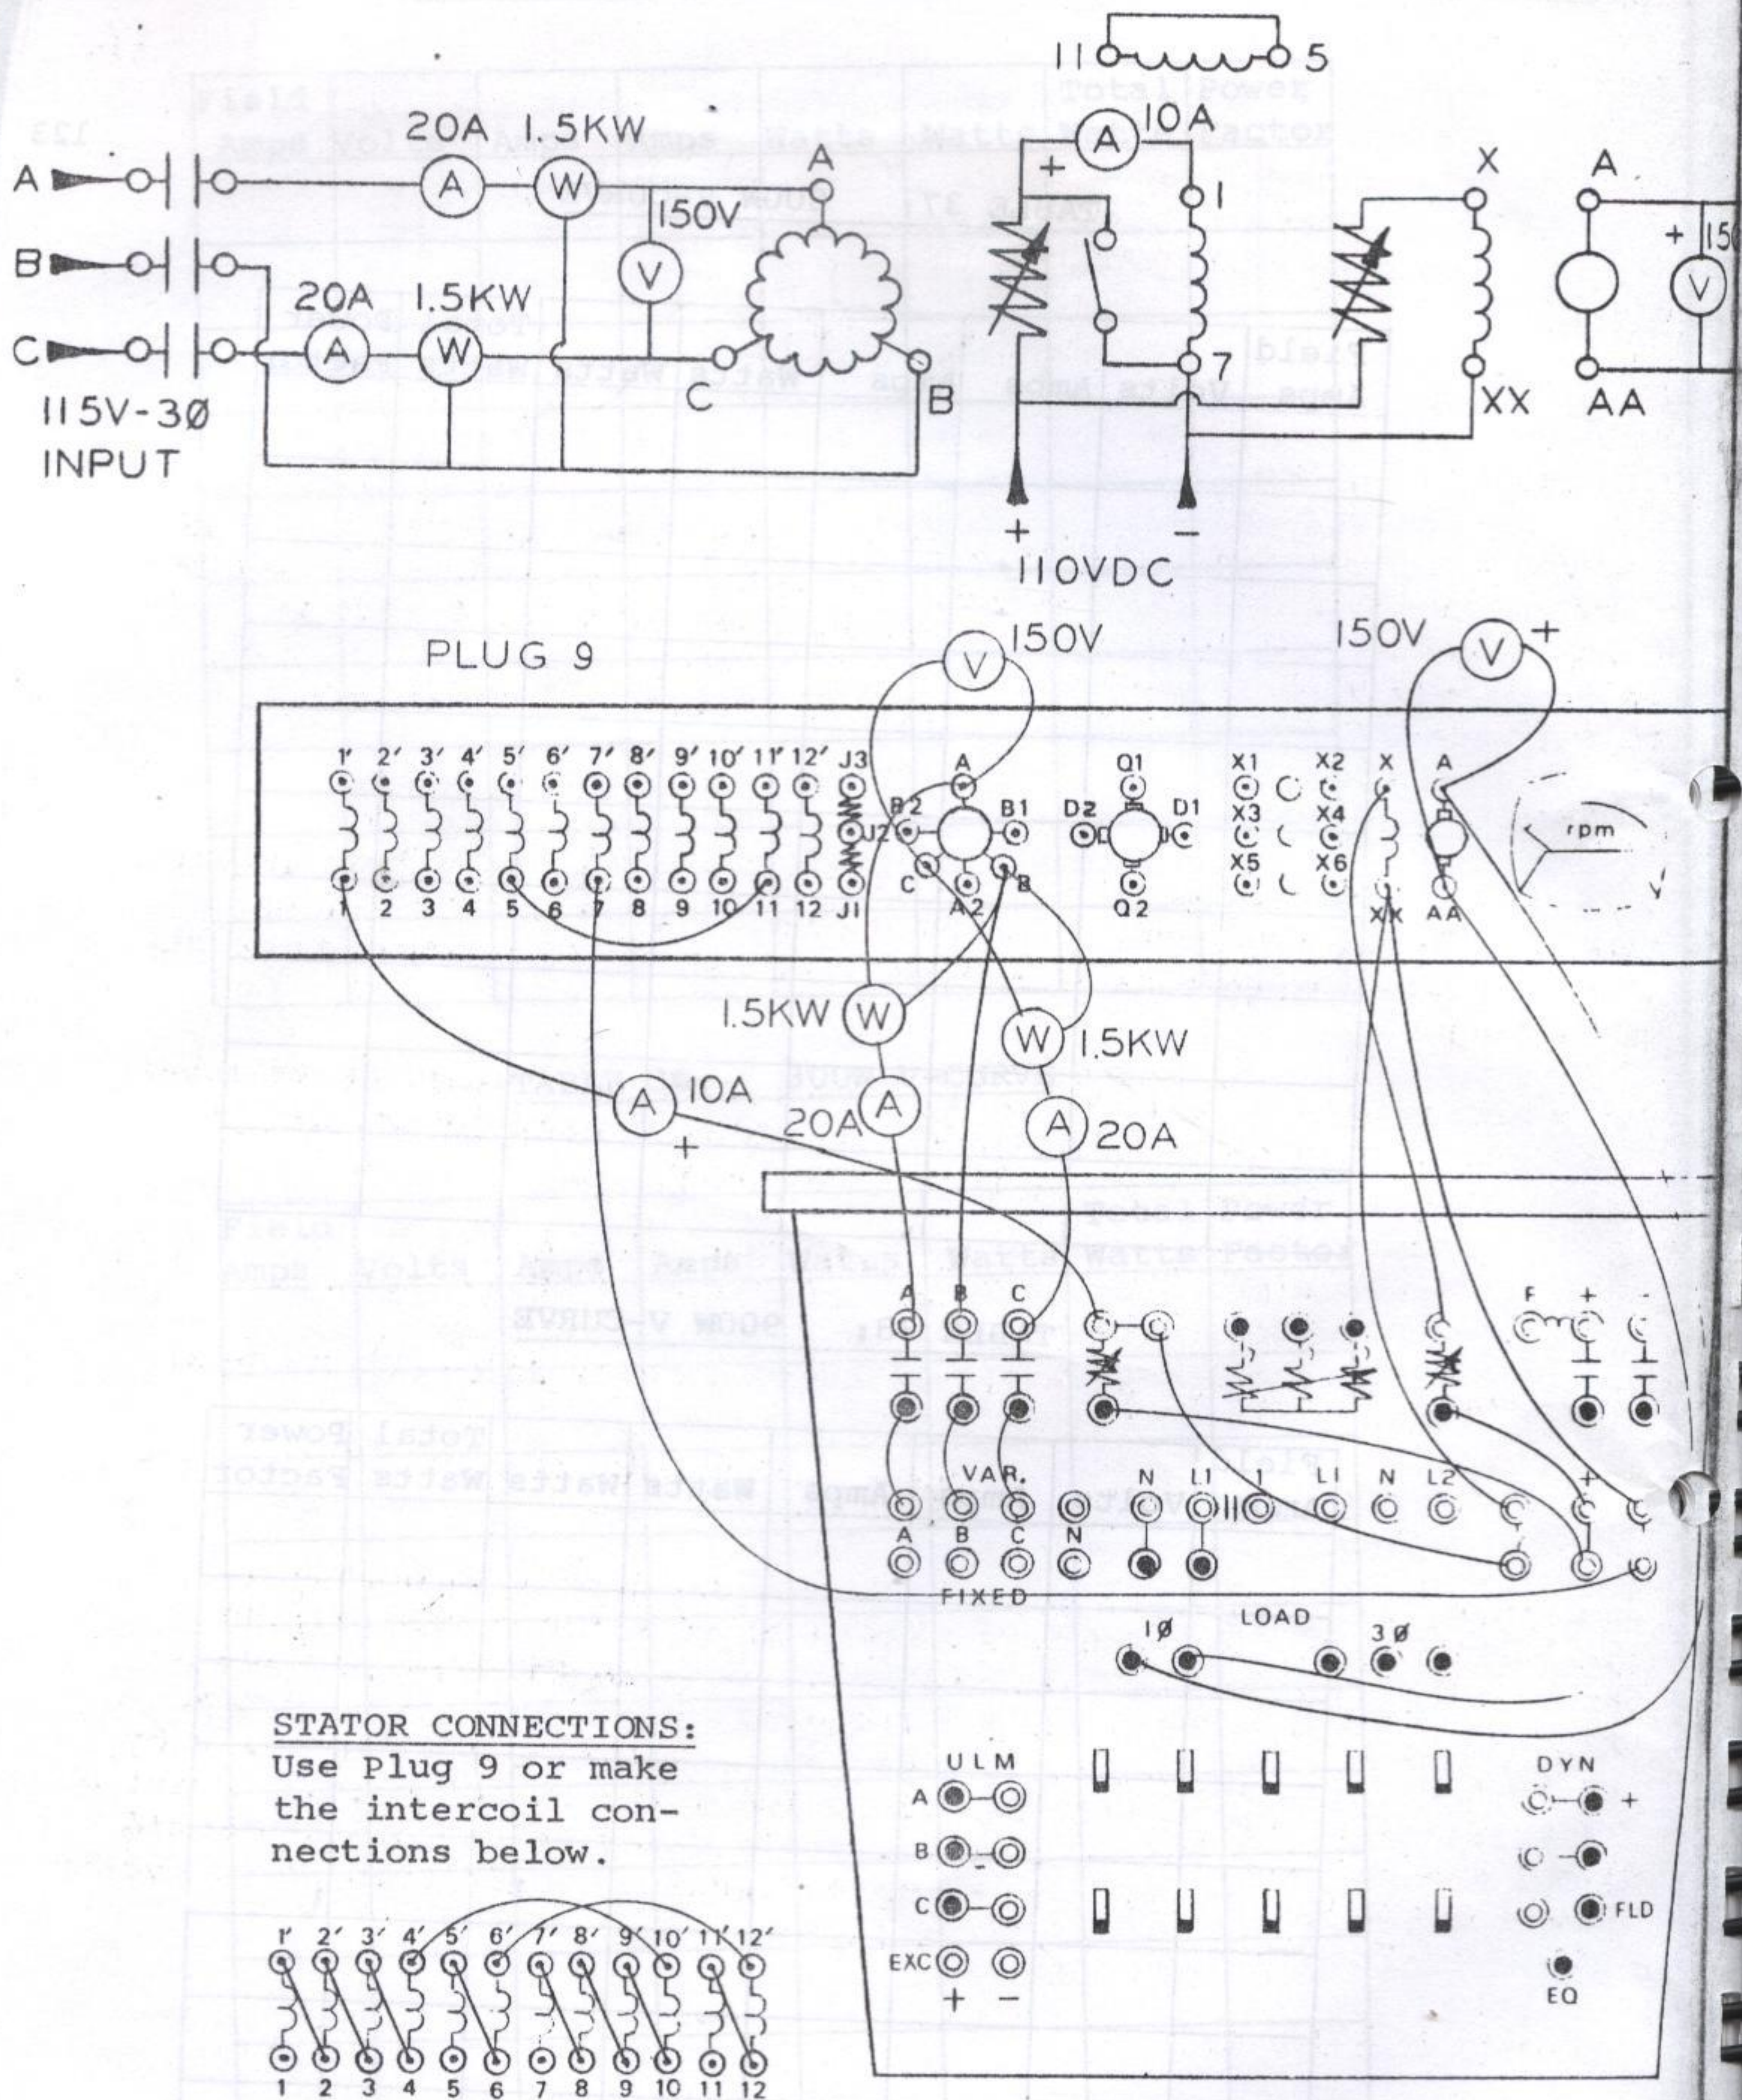

FIGURE 31: SYNCHRONOUS MOTOR V CURVES
1. Connect the Universal Machine to operate as a synchronous motor as shown in Figure 31. The current coils of all meters should be SHORT-CIRCUITED WHEN STARTING. Switch on the main AC and 3 ϕ Variable Source circuit breakers and adjust the output of the Variable Source to 115v-3 ϕ .
2. Connect the Dynamometer to operate as a shunt generator as shown in Figure 31. Adjust its field rheostat to the maximum resistance (fully clockwise) position.